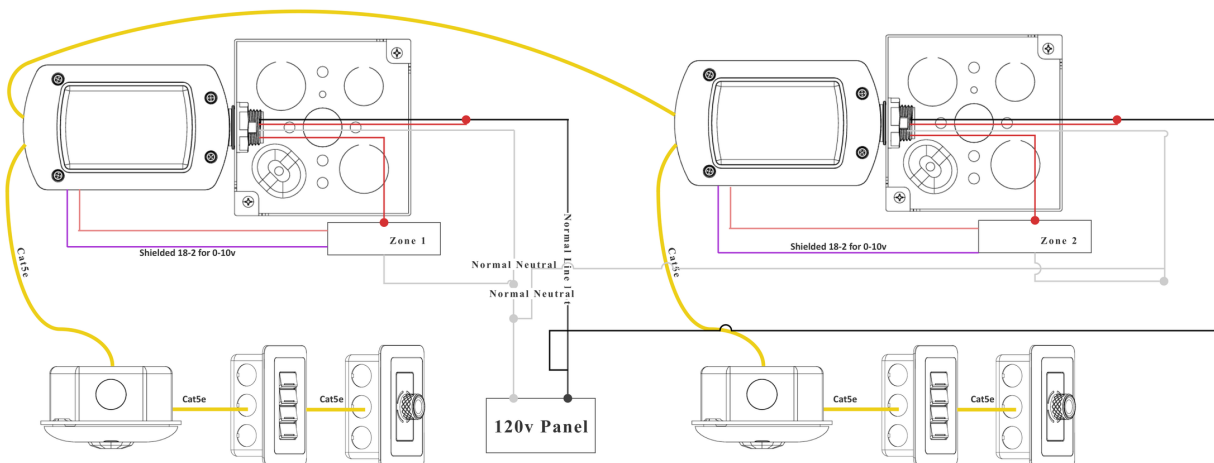

Figure 7-5 — Dual power pack wiring diagram. A second Olympus adds relay capacity for receptacle (plug-load) control; both units share the Class 2 Cat5e bus.
13.3 Lighting + controlled receptacle	Sierra occupancy state drives Relay 2 to de-energize receptacles when the space is vacant (IECC / ASHRAE 90.1 / Title 24 plug-load control). Controlled receptacles must be marked per NEC 406.3(E). Wiring: Figure 7-5 (Section 7.5).
13.4 Multi-controller network	A second Olympus adds relay and dimming capacity; both controllers share the Class 2 Cat5e bus. Line voltage, loads, and neutrals per 13.1–13.3 at each controller. Wiring: Figure 7-5 (Section 7.5).